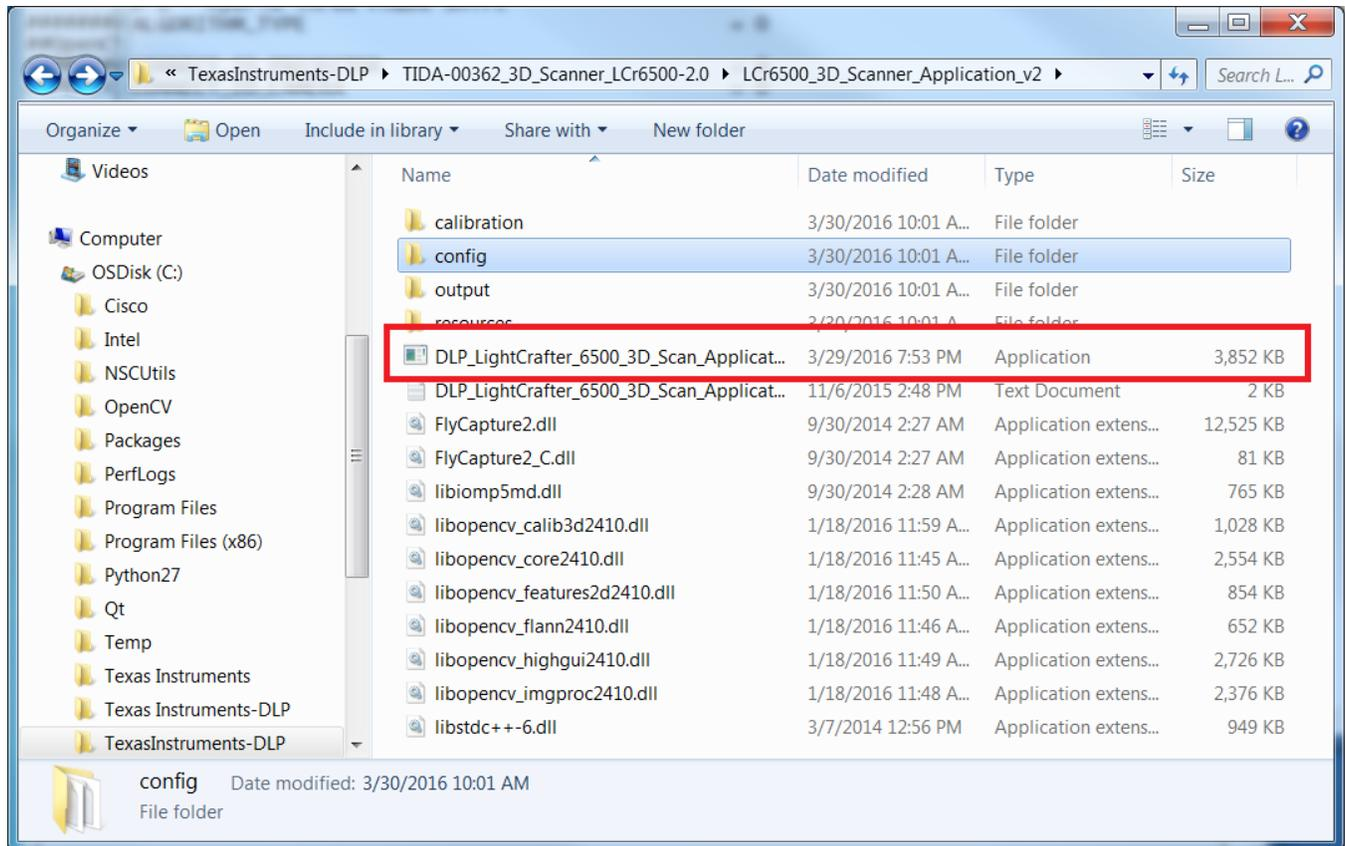

Figure 3-4. Running the 3D Scanning Command Line Program
1. Start the 3D Scanner Reference Design program, installed in Section 2.5, by running the executable file, as shown in Figure 3-4.